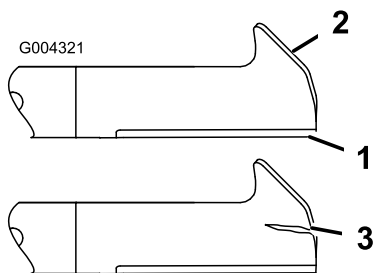

Figure 47
1. Inspect the cutting edges (Figure 47). If the edges are not sharp or have nicks, remove and sharpen the blades; refer to Sharpening the Blades.
2. Inspect the blades, especially the curved area (Figure 47). If you notice any damage, wear, or a slot forming in this area (item 3 in Figure 47), immediately install a new blade.